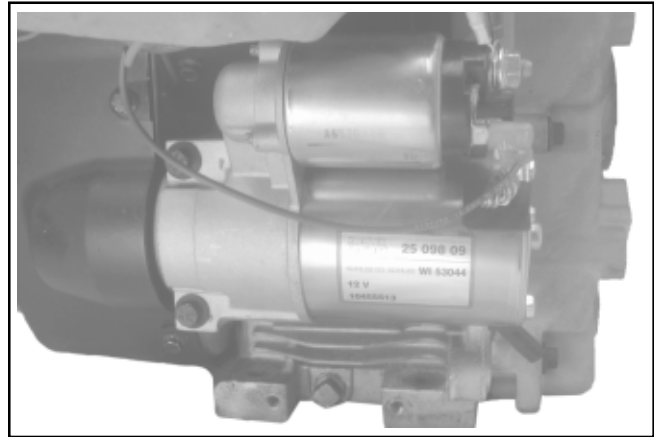

Figure 11-73. Connecting Leads to Starting Motor.
3. On models with a solenoid shift starter, connect the leads to the solenoid. See Figure 11-73.